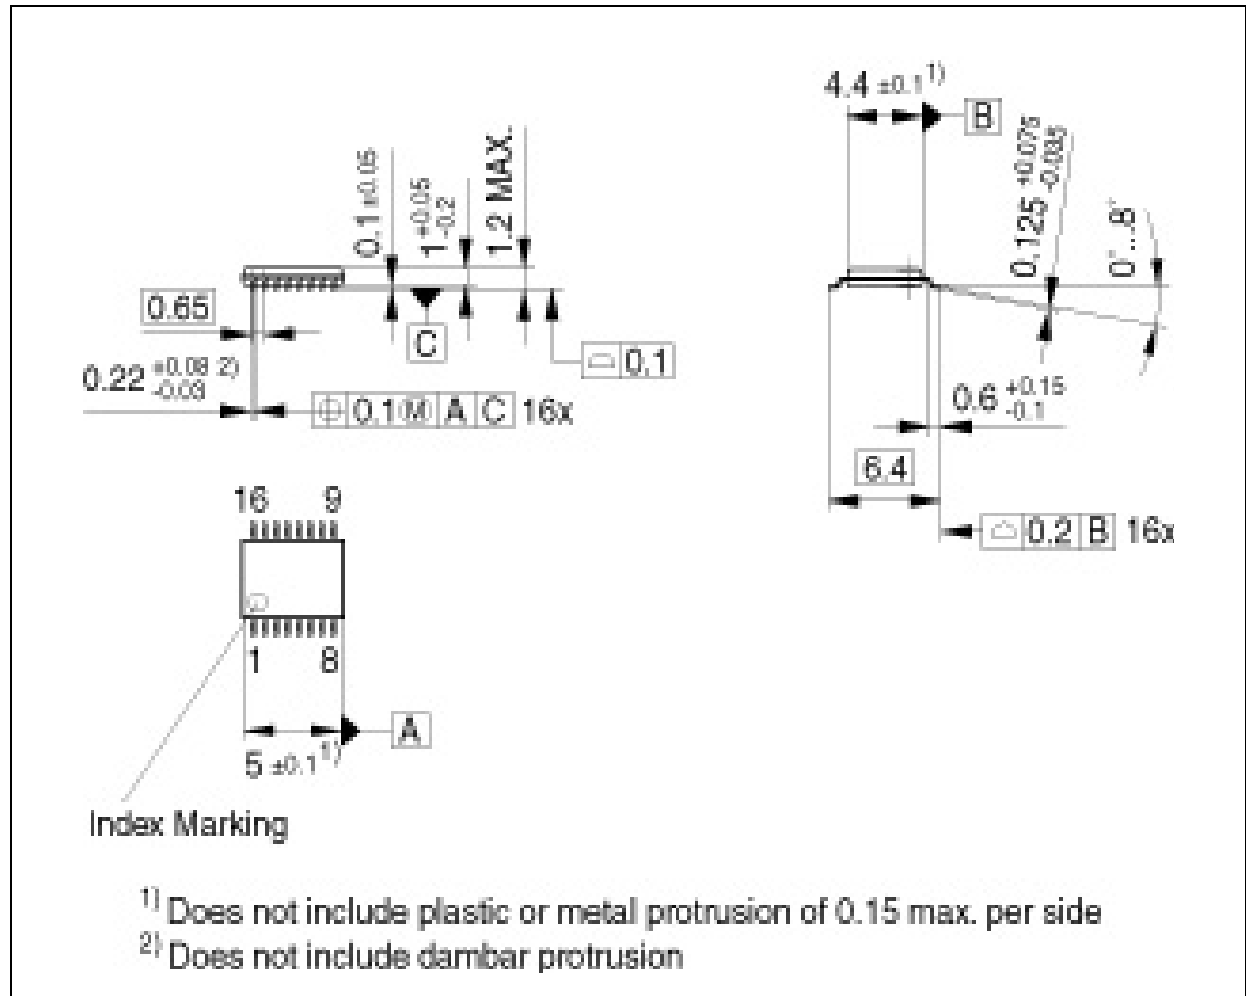
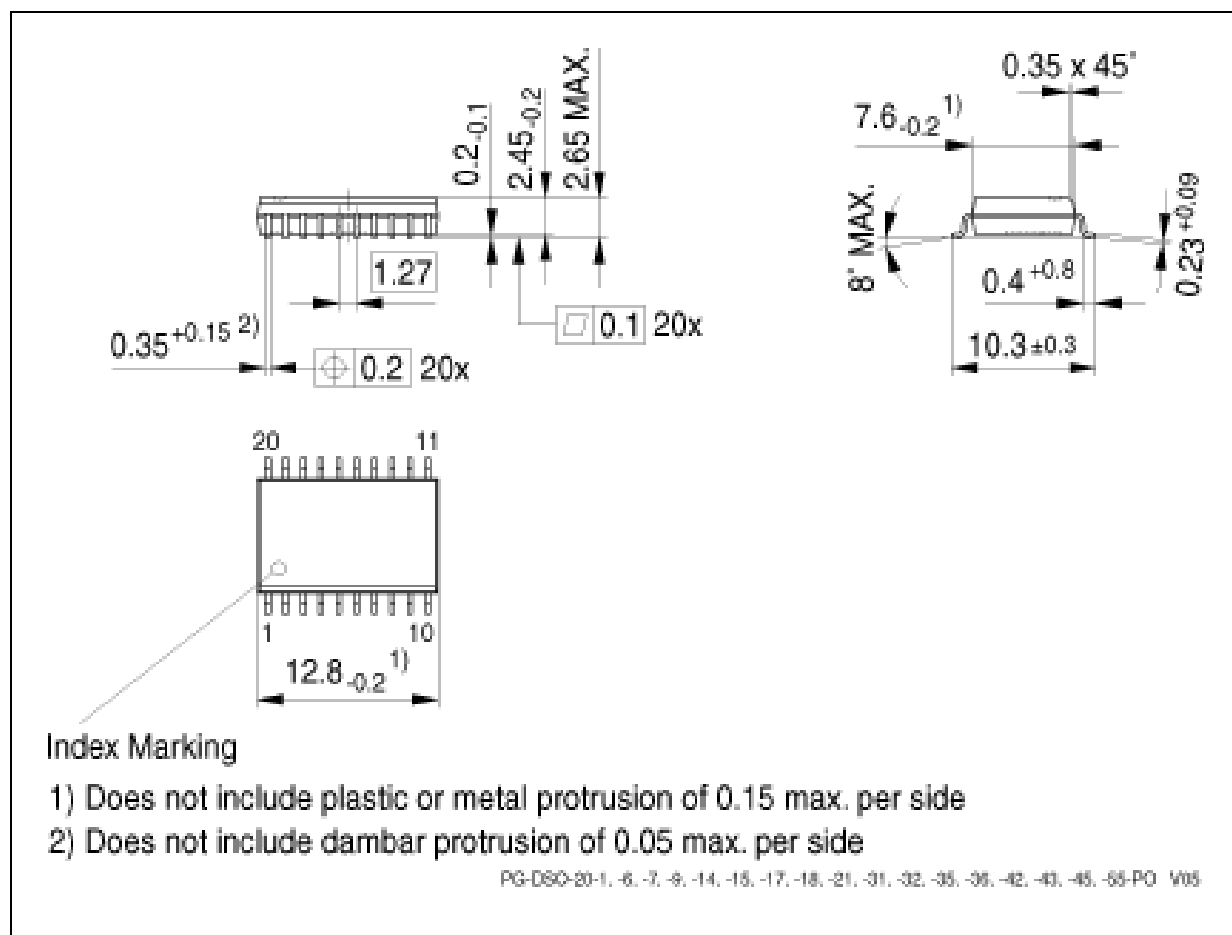

**Figure 18 PG-TSSOP-16-1 Package Outline**
**Figure 19 PG-DSO-20-45 Package Outline**
**Figure 18** and **Figure 19** shows the package outlines of the XC822 (TSSOP-16) and XC824 (DSO-20) devices respectively.